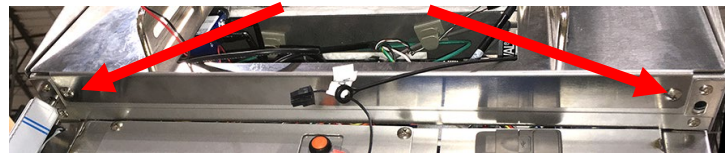
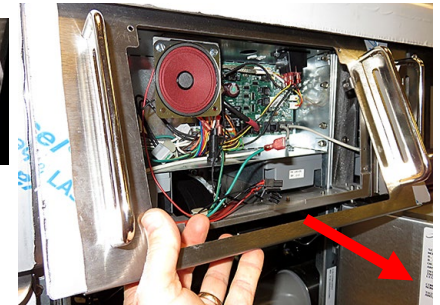

Figure 12
Figure 13
12. If installing in a gas fryer, remove the bezel by removing the two screws on the bottom of the bezel (see Figure 12) and tilting the bezel up from the bottom and lowering towards the front of the fryer (see Figure 13).